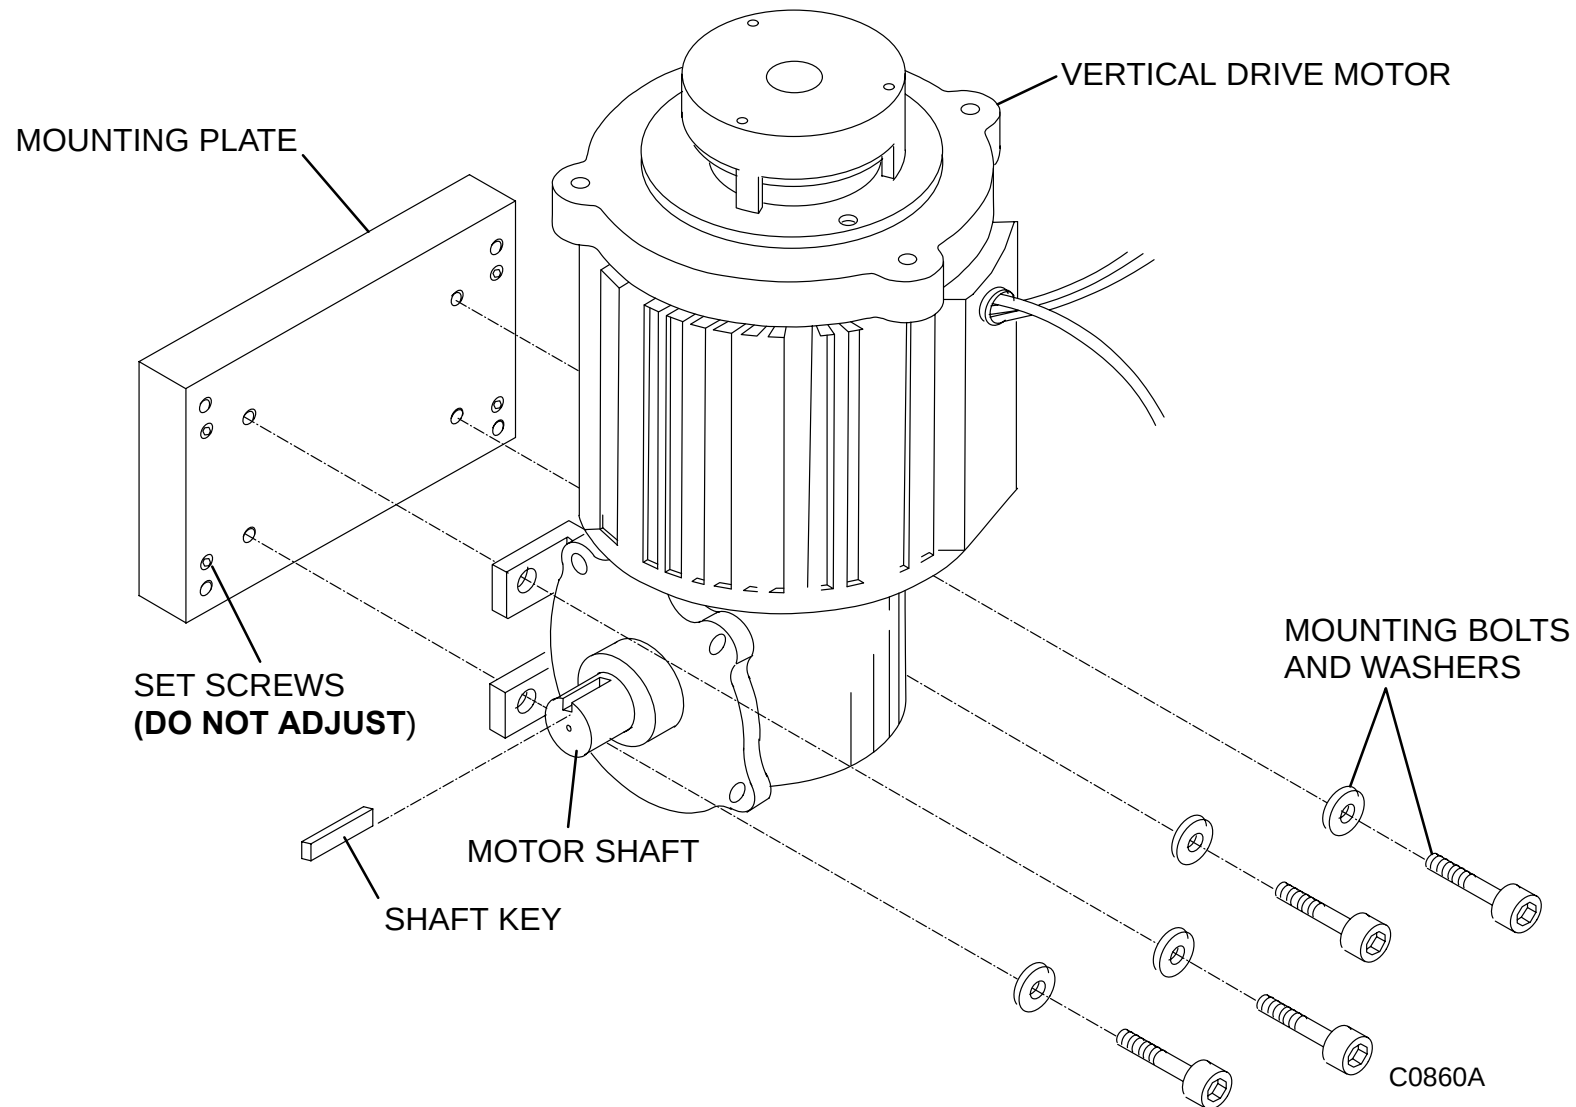

FIGURE 211 VERTICAL MOTOR MOUNTING PLATE
12. Remove the four mounting bolts and washers from the motor side of the vertical motor mounting plate. See Figure 211.
21. Secure the motor to the mounting plate with the four mounting bolts and their respective washers. Refer to Figure 211.